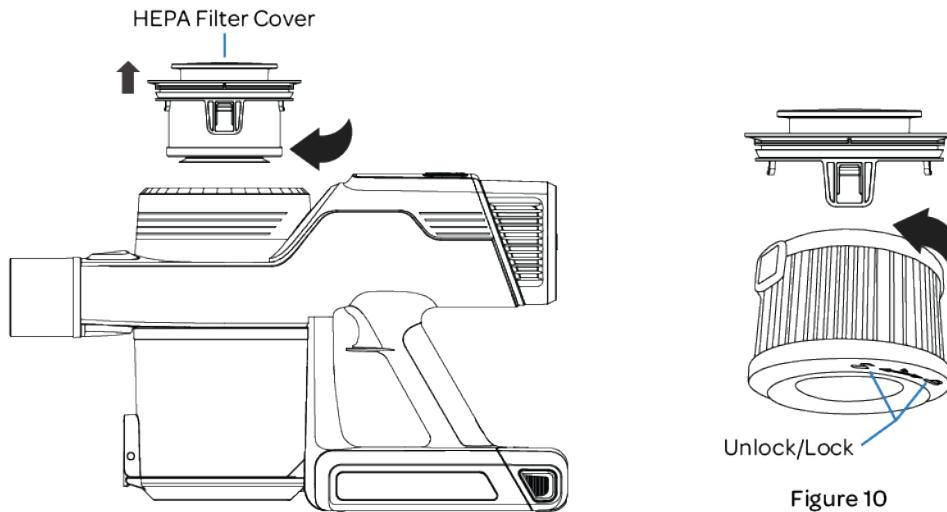

Figure 9
2. Lift the HEPA Filter Cover up to remove from the unit assembly. (Figure 9)
3. Turn the Dust Bin HEPA Filter to the left to unlock and release. (Figure 9, Figure 10)